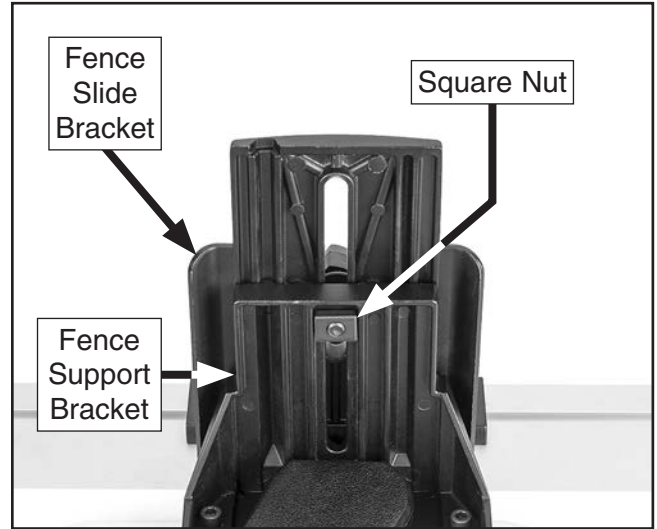

Figure 14. Square nut installed on fence slide lock handle.
6. Install M8-1.25 square nut on fence slide lock handle and tighten handle to lock in place (see **Figure 14**).